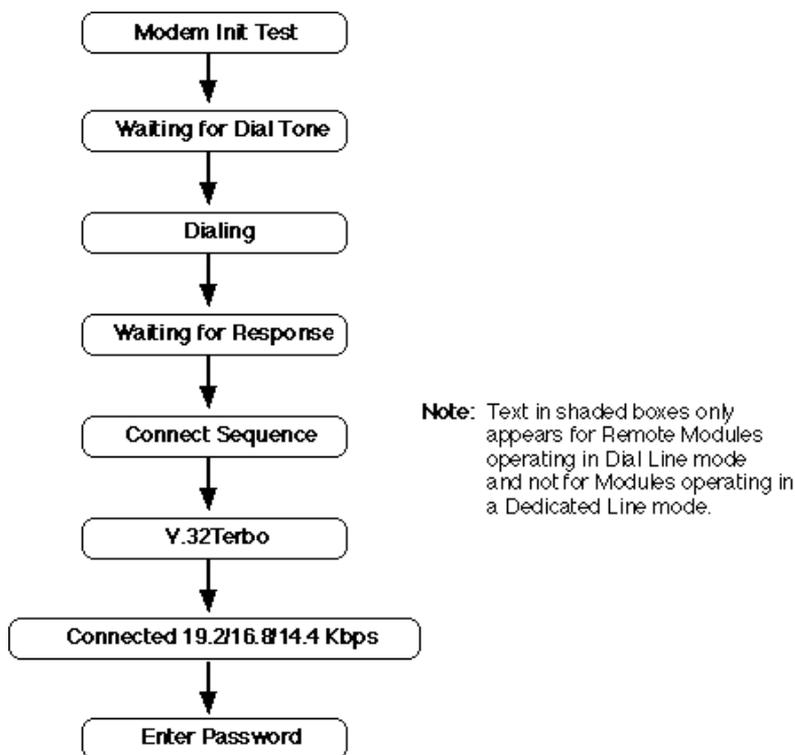

Figure 4-1. Connect Sequence for the Remote Module
2. At this point, the Remote Module dials the Switch Module at the programmed number (see "Setting the Telephone Number" in Chapter 3, Programming). Figure 4-1 shows the sequence of messages that appear on the telephone display during connection of the Extender system.